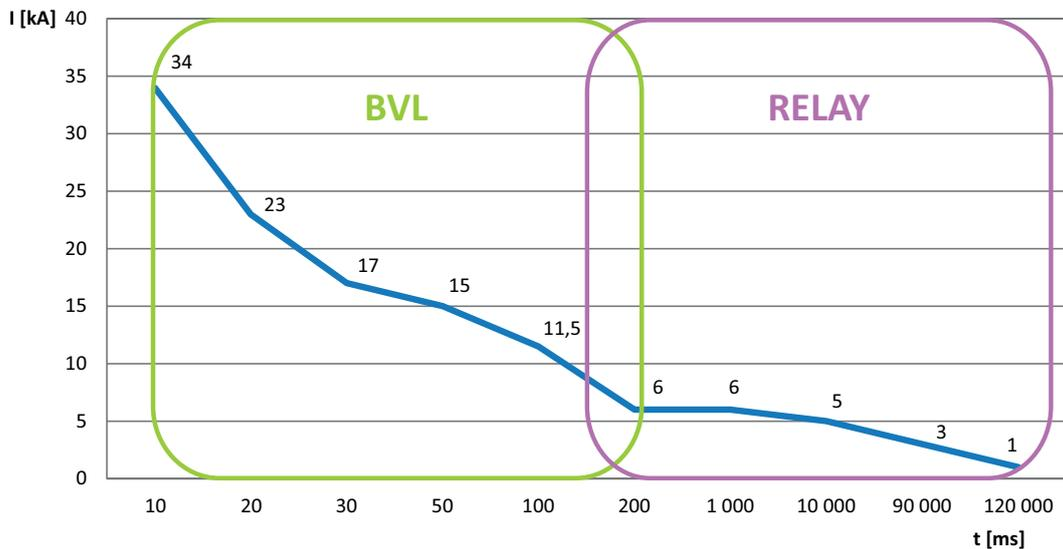

Fig. 12: Overall load characteristic of PVL-1000
2. MAIN RELAY – a special contactor capable of withstanding high loads, which becomes connected with a certain delay to the BVL, i.e. between the RAIL and EARTH main terminals. The connection and disconnection algorithm of this contactor is electronically controlled by sensing the current and voltage waveform at the RAIL terminal. The contactor is able to continuously transmit rated current of 1 kA, and significantly higher short-circuit currents during shorter periods. If we consider that typical VLD activity times move in the interval 0 to 30 seconds, the PVL is capable of operating with currents up to 3 kA. The combined load characteristic of the entire PVL is shown in Fig. 12.